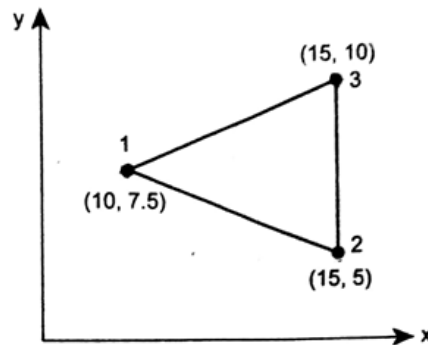

Figure 3
- (b) Calculate the element stresses σ_x , σ_y , and τ_{xy} , for the element shown in Figure 3. The nodal displacements are $u_1 = 2 \text{ mm}$, $u_2 = 0.5 \text{ mm}$, $u_3 = 3 \text{ mm}$, $v_1 = 1 \text{ mm}$, $v_2 = 0 \text{ mm}$, $v_3 = 1 \text{ mm}$. Take $E = 2.1 \times 10^5 \text{ N/mm}^2$ and $\nu = 0.25$. Assume plain stress condition. [7M]